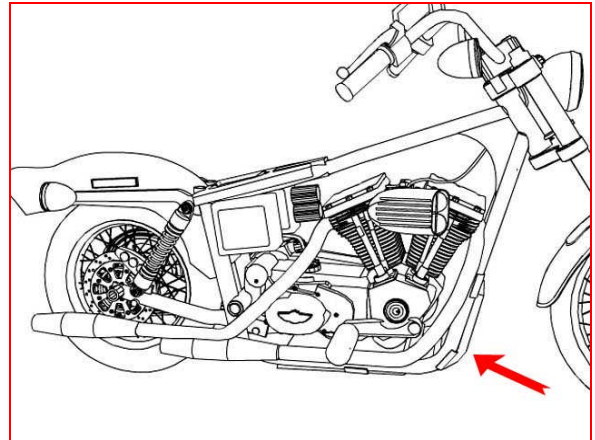

Figure 3
6. The front factory O2 connector is located in between the front down tubes of the frame just behind the front tire (DYNA figure 3). The front TFI O2 harness (long harness with pink/tan wires) will run along the left side of the frame down to the front factory O2 connector.